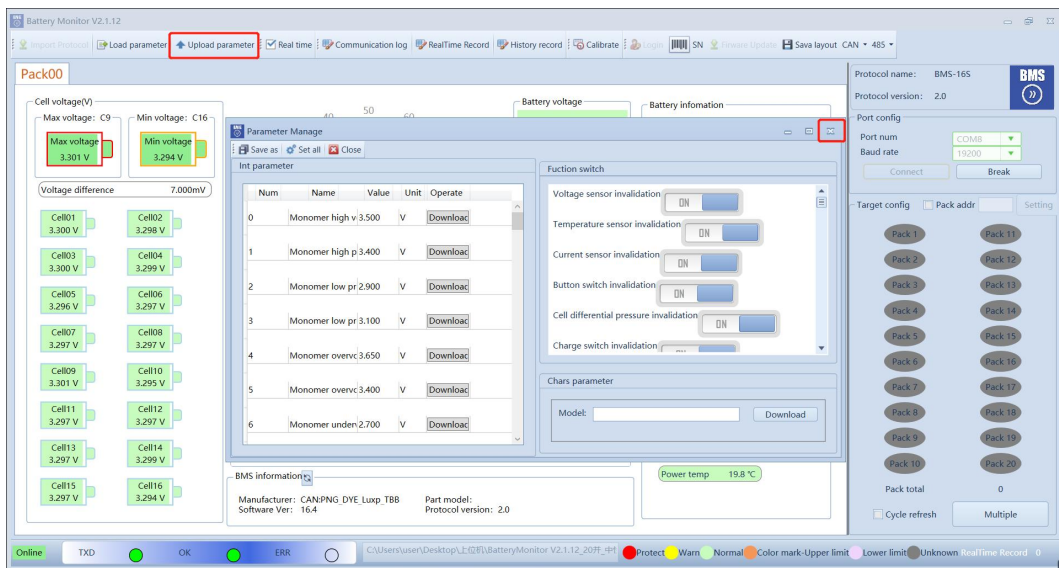

Figure 6-1
- 1) For the first load parameters, you need to "upload parameters" and then "close",Figure 6-1